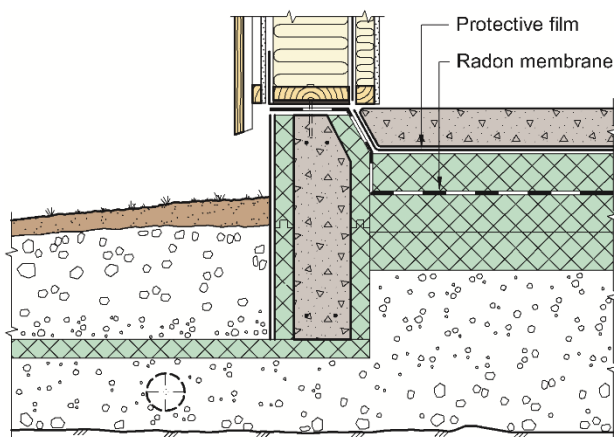

Fig. 3
*Application type B (fig. 3 and 4)*